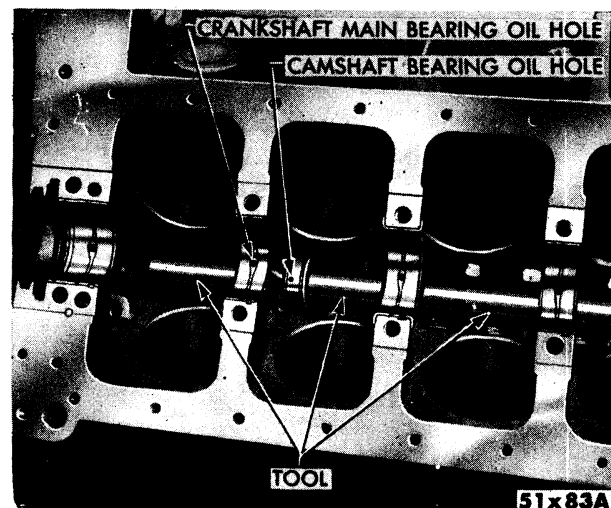

Fig. 97—Installing Camshaft Bearing Shells (Tool C-3034)
- (1) Coat a new welch plug with a suitable sealer and install in the cylinder block at the rear cam bearing, using Tool C-897. Coat the main oil gallery plugs with sealer, then install in the block. Tighten securely.
- (2) Mount the cylinder block in the repair stand. Install the new camshaft bearing shells as follows: Slide new bearing shell over adaptor and insert in position, as shown in Figure 97. Install the horseshoe lock and drive in place. Install the remaining bearing shells in like manner.